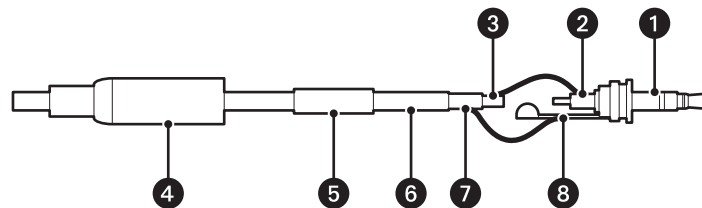

Figure 6. Attaching the 2.5 mm Stereo Headphone Plug
2. Attach the 2.5 mm stereo plug to the other end of the coaxial cable (refer to Figure 6):